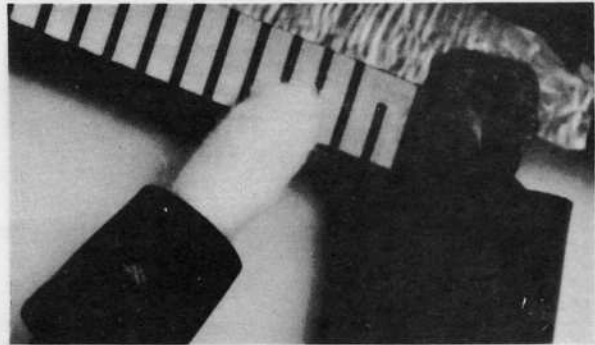

FIGURE 28. GOLD PLATING
STEP 25. It is recommended that you replate the Edge Connector using the PACE Gold Plating System (see Figure 28). Refer to Equipment and Training for Gold Plating System. The replacement connectors are nickel plated, therefore, a gold electroplate solution can be applied directly to this surface.